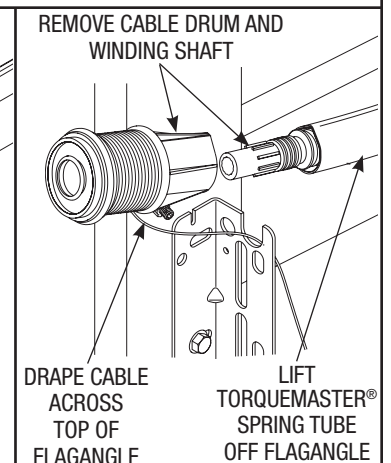

Fig. 9
Step 9: Lift the right hand side of the TorqueMaster® spring tube and slide the cable drum off. Realign the groove in the winding shaft with the round notch in the flagangle and drape the counterbalance cable with drum over the flagangle. Lift the left hand side of the TorqueMaster® spring tube and slide the cable drum and winding shaft off (Fig. 9). Drape the counterbalance cable with drum over the flagangle. Lift the TorqueMaster® spring assembly off the flagangles and out of the doorway. Unhook the counterbalance cables from the bottom brackets and remove all parts from the work area.